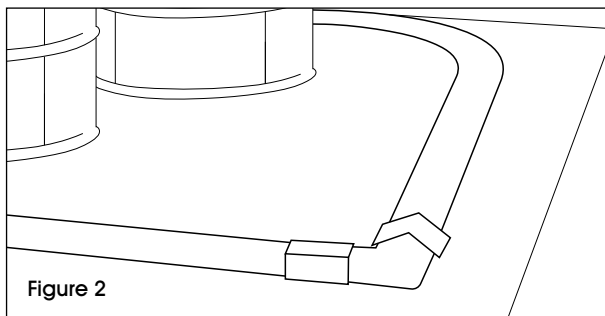

Figure 2
- b. For a 90° angle, join the straight section to the corner piece with the connector. (See Figure 2)